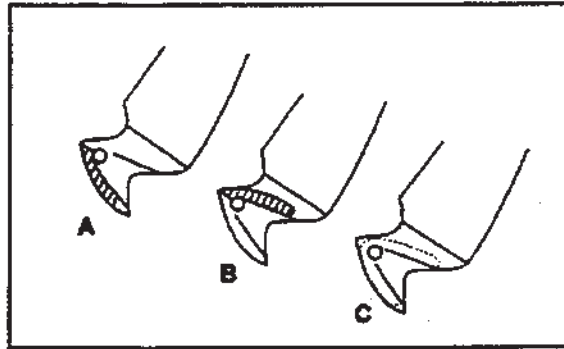

FIG.4
If the felt pen marking on the thread catcher looks like A or B, adjust the angle of the thread cutter as necessary then adjust the blade pressure (Fig.4).
1) If the felt pen marking looks like A (Fig.4),
2) If the felt pen marking looks like B (Fig.4),
3) If the felt pen marking looks like C, adjust the blade pressure (Fig.4).